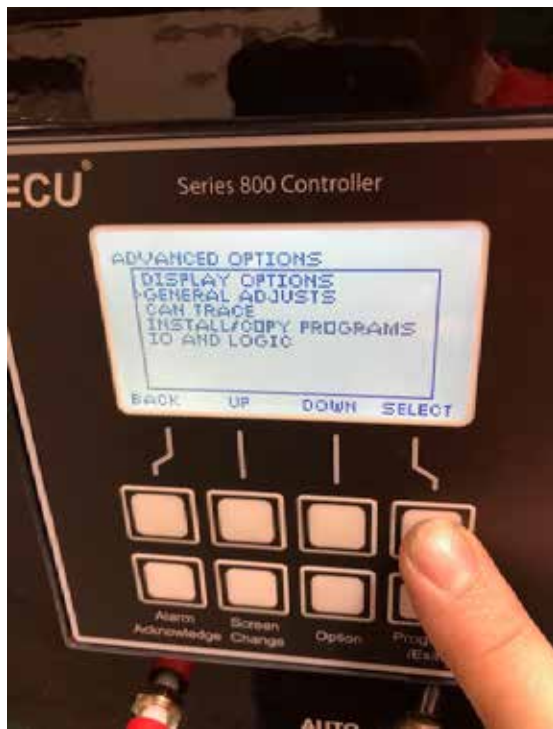

Figure 19. General Adjusts (Select)
13. Press the **SELECT** button (Figure 19).